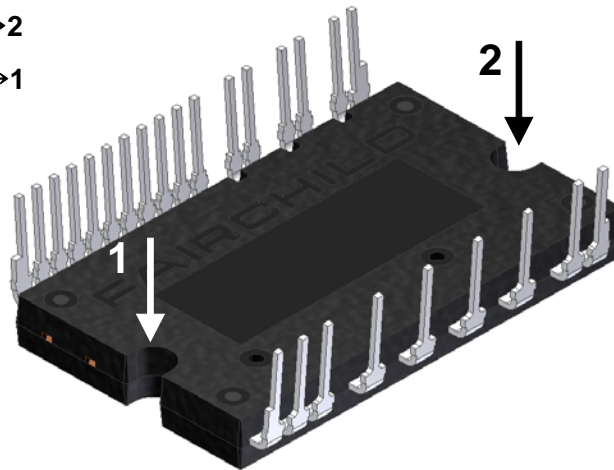

Figure 10. Mounting Screws Torque Order
| | See Figure 10 | Recommended 7.1 kg • cm | 6.2 | 7.1 | 8.1 | kg • cm |
- 13. Avoid one-sided tightening stress. Figure 10 shows the recommended torque order for mounting screws. Uneven mounting can cause the ceramic substrate of package to be damaged. The pre-screwing torque is set to 20 ~ 30% of maximum torque rating.